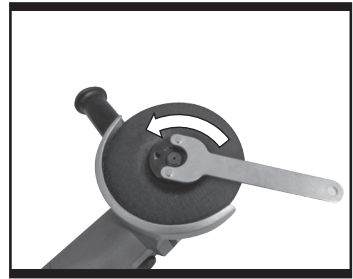

Fig. 2-3
3. Grinding/Cutting Disc(See Fig 2-3).